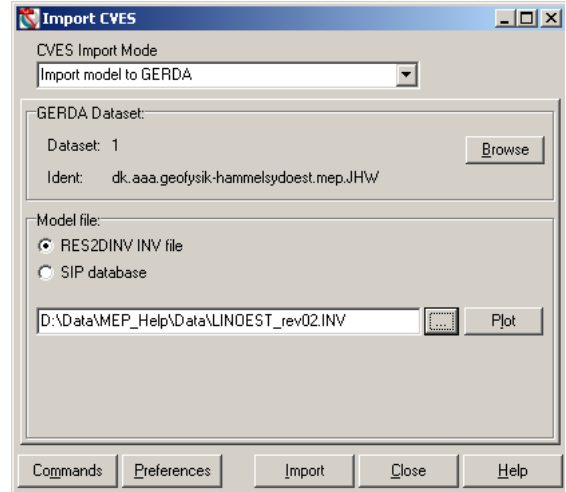

Figure 2.5 The import of CVES models is done using the Import CVES form with CVES Import Mode set to Import Model to GERDA
2. Set **CVES Import Mode** to **Import model to GERDA**, as seen in Figure 2.5.